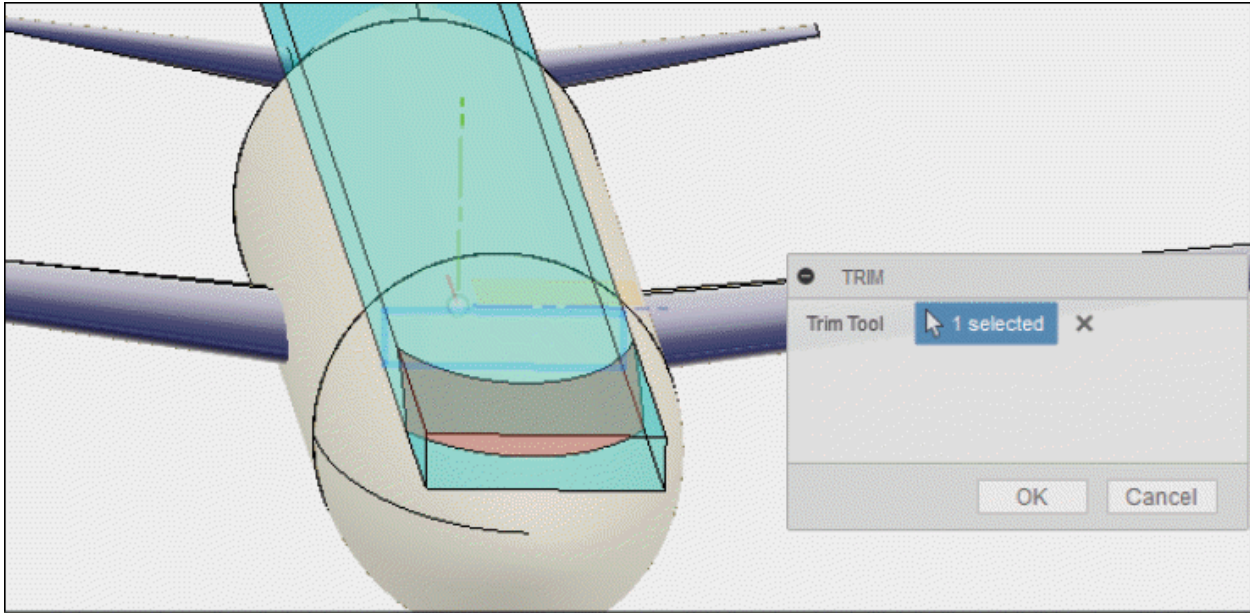

Figure-65. Selection of area for trim
- The **Select** button of **Trim Tool** section is active by default. Select the recently created rectangular sketch and click on the inner area of trim preview; refer to Figure-65.